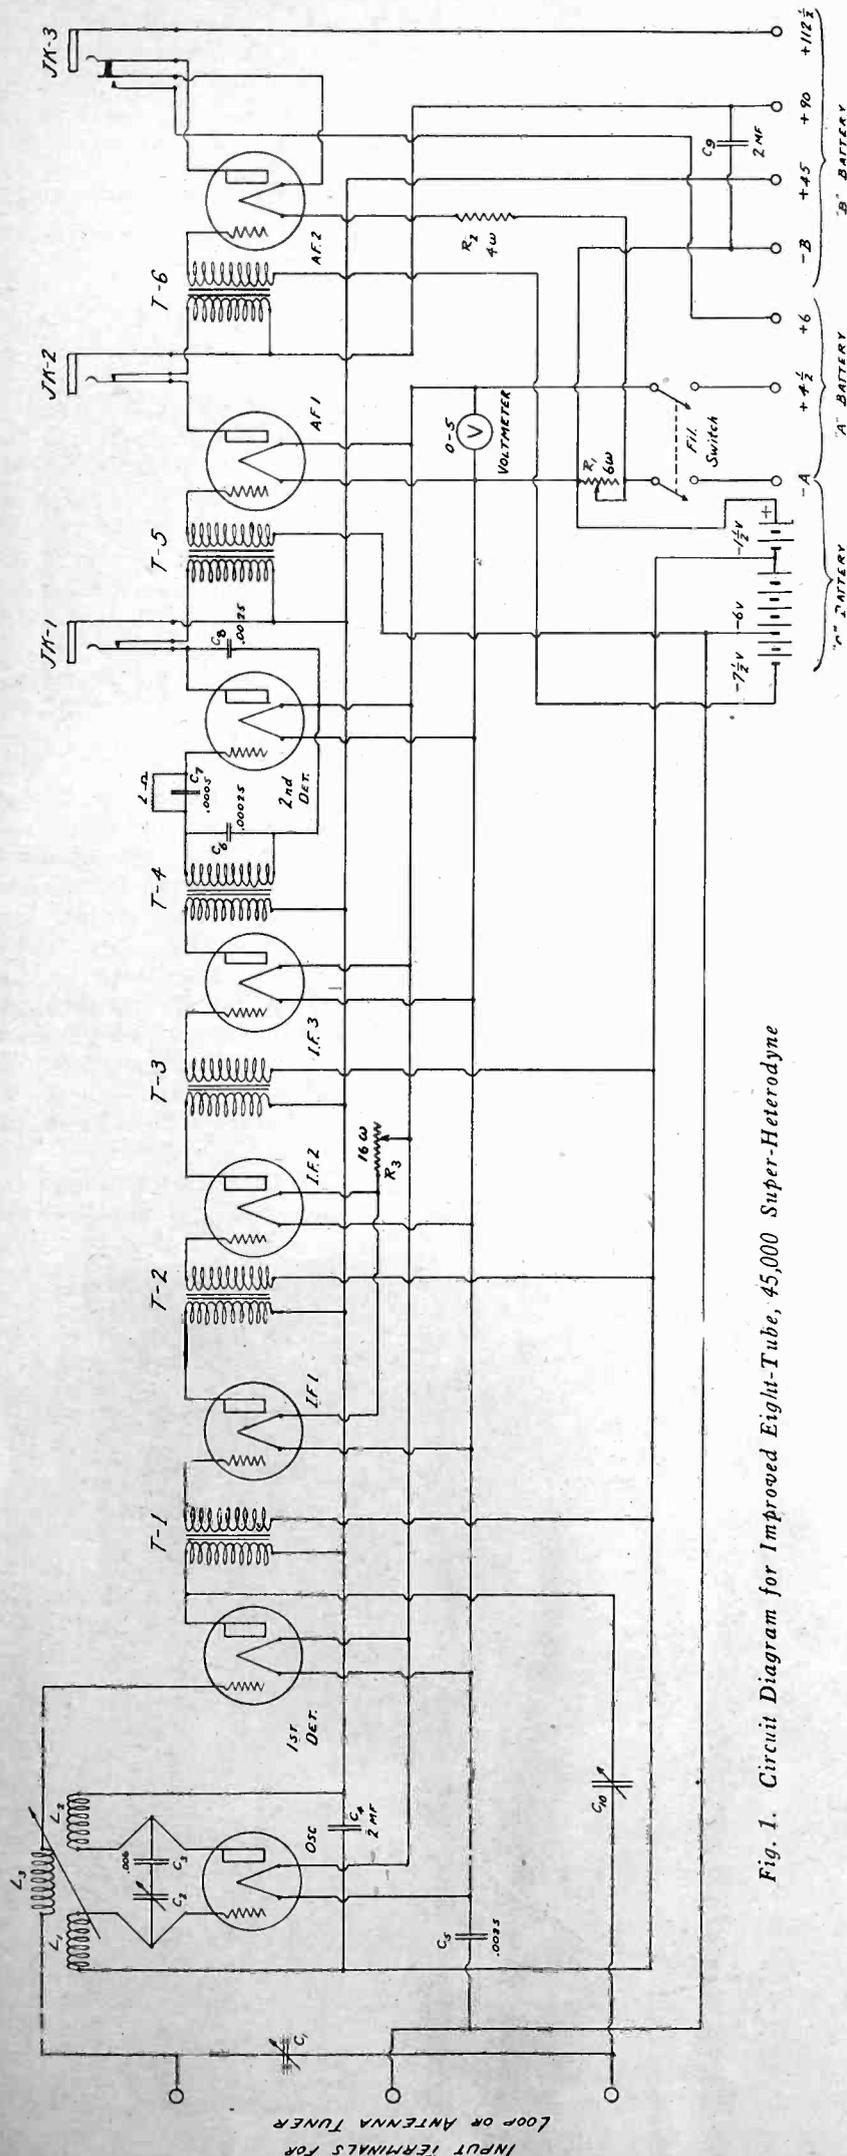

Fig. 1. Circuit Diagram for Improved Eight-Tube, 45,000 Super-Heterodyne
FIG. 1 shows the schematic circuit diagram. It consists of four parts: (1) The local oscillator, for generating the second frequency, and the first detector, which receives the incoming frequency and mixes it with the locally generated frequency (marked *OSC* and *1st Det.* on circuit diagram); (2) Three stages of intermediate amplification, tuned to 45,000 cycles (marked *IF₁*, *IF₂*, *IF₃* on diagram); (3) The second detector which makes the signal audible (*2nd Det.*); (4) The audio frequency amplifier permitting the use of a loud speaker (*AF₁* and *AF₂*).